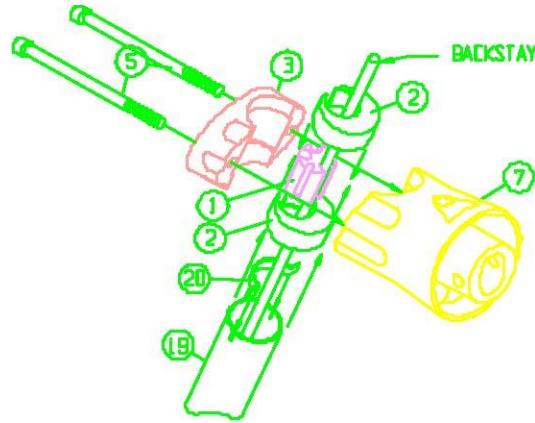

FIGURE 7
N. For configurations #5 or #6, remove the backstay turnbuckle from the backstay and set it aside. If the chainplate clevis pin centerline runs fore and aft, a toggle must be added so that the Clevis Pin (10) centerline will be athwartships. With the Anti-rotation Clip (20) inserted into the top of the Mounting Pole (19); slide the pole into the Pivot Base Cone until the top touches the bottom side of the lower Backstay Bushing Housing (2). Apply Loctite to the clamping screws (6) and tighten the assembly (Figure 7).